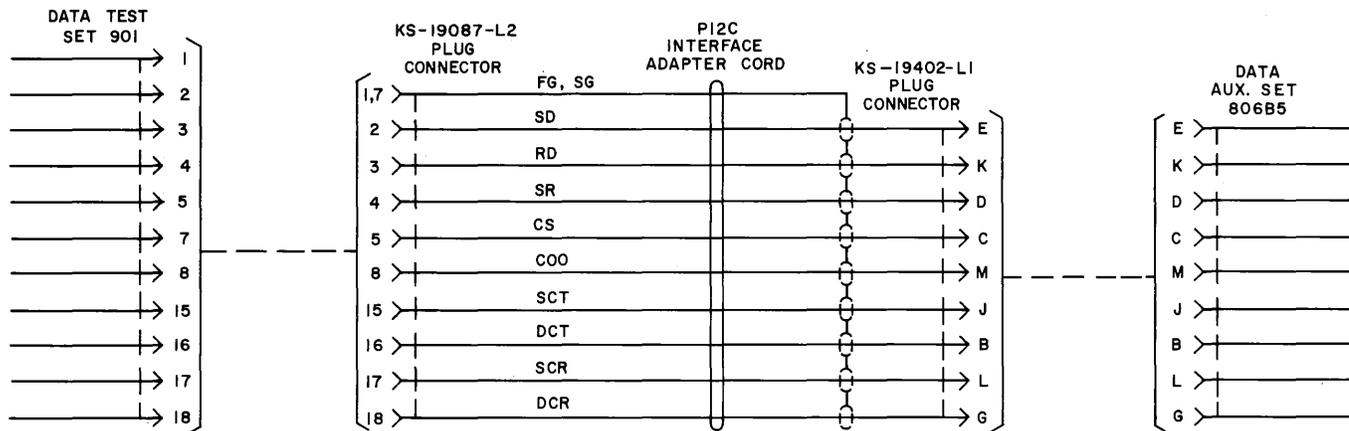

Fig. 3—The P12C Cord to Adapt 901B Data Test Set to Data Auxiliary Set 806B5
(3) Connect the data test sets together as follows:
(4) Run two leads from the SIGNAL OUT terminals of the No. 1 903B to the TRANSMIT DATA terminals of the 901B.
(5) Run two leads from the EXT CLOCK terminals of the No. 1 903B to the TRANSMIT CLOCK terminals of the 901B.
(6) Connect a 200-ohm resistor between the red and black TRANSMIT CLOCK terminals of the 901B.
(7) Run two leads from the DATA IN terminals of the 902B to the RECEIVE DATA terminals of the 901B.
(8) Connect a 200-ohm resistor between the red and black RECEIVE DATA terminals of the 901B.
(9) Run two leads from the EXT SYNC terminals of the 902B to the RECEIVE CLOCK terminals of the 901B.
(10) Connect a 200-ohm resistor between the red and black RECEIVE CLOCK terminals of the 901B.
(11) Connect the No. 2 903B to the 902B with the cord provided for this purpose.
(12) Disconnect the business machine cord from the connector designated CUST EQUIP. Connect the 901B to the data set interface connector designated TST. In installations with DAS 806B5, connect the 901B DTS to DAS 806B5 with the adapter cord (Fig. 3) and install option F (permanent send request) in the DAS.
(13) Strap data set for internal transmitter timing (option Z).
(14) Connect the power cords of both 903B DTSs to a 117-volt ac power receptacle. Turn the 903B power switches to ON.
- (2) Run two leads from the SIGNAL OUT terminals of the 903B to the TRANSMIT DATA terminals of the 901B.
- (3) Run two leads from the EXT CLOCK terminals of the 903B to the TRANSMIT CLOCK terminals of the 901B.
- (4) Connect a 200-ohm resistor between the red and black TRANSMIT CLOCK terminals of the 901B.
- (5) Disconnect the business machine cord from the CUST EQUIP connector. Connect the 901B to the data set interface connector designated TST. In installations with DAS 806B5, connect the 901B DTS to DAS 806B5 with the adapter cord (Fig. 3) and install option F (permanent send request) in the DAS.
- (13) Strap data set for internal transmitter timing (option Z).
- (14) Disconnect the business machine cord from the CUST EQUIP connector. Connect the 901B DTS to the data set interface connector designated TST. In installations with DAS 806B5, connect the 901B DTS with the adapter cord (Fig. 3).
- (15) Connect the power cord from the 903B to a 117-volt ac receptacle. Turn the power switch to the ON position.